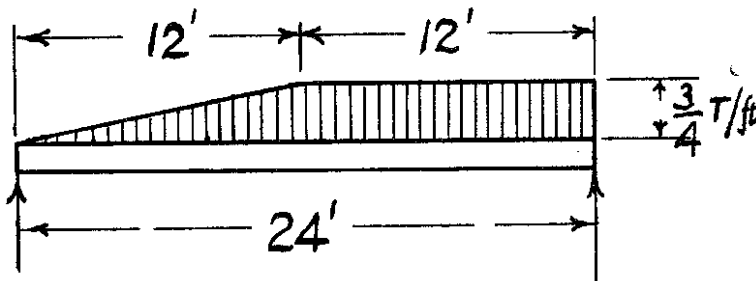

FIGURE 2
2. A beam 24 ft long is simply supported at its ends. It carries a distributed load which increases uniformly from zero value at the left-hand end to  $\frac{3}{4}$  tonf/ft at mid-span and is then uniform at  $\frac{3}{4}$  tonf/ft on the right-hand half of the beam as indicated in figure 2.